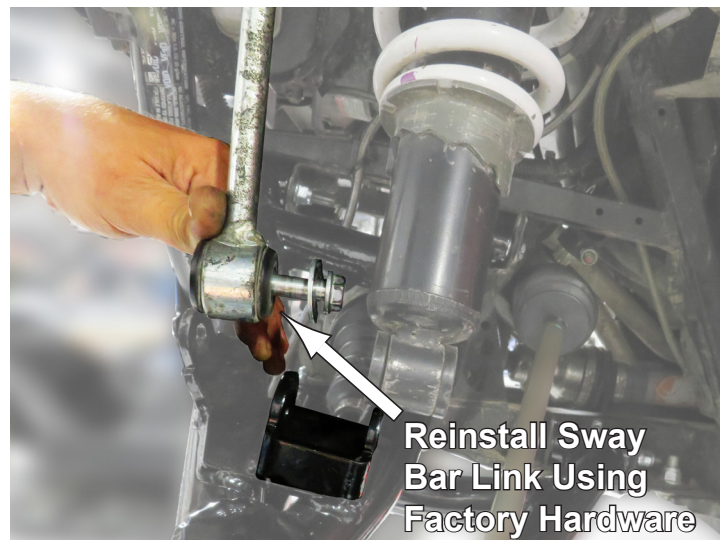

Fig.13
11. Reinstall the Factory Sway Bar Link as shown in **Fig.13** and secure.